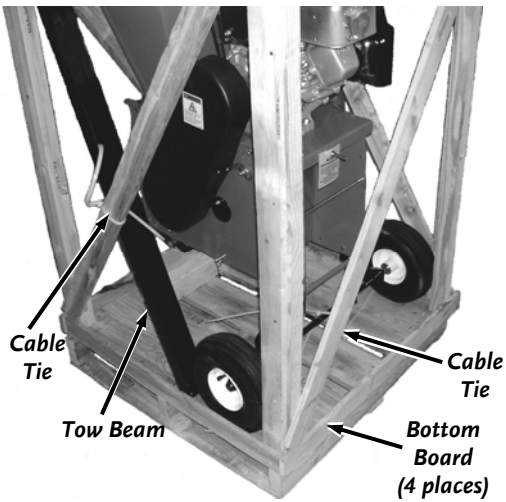

Figure 3
1. Pry off the four (4) Bottom Boards of the Crate from the shipping pallet (Figure 3 on page 10).
2. Cut the Ties securing the Tow Beam and the Chipper/Shredder to the Crate and Shipping Pallet (Figure 3 on page 10).